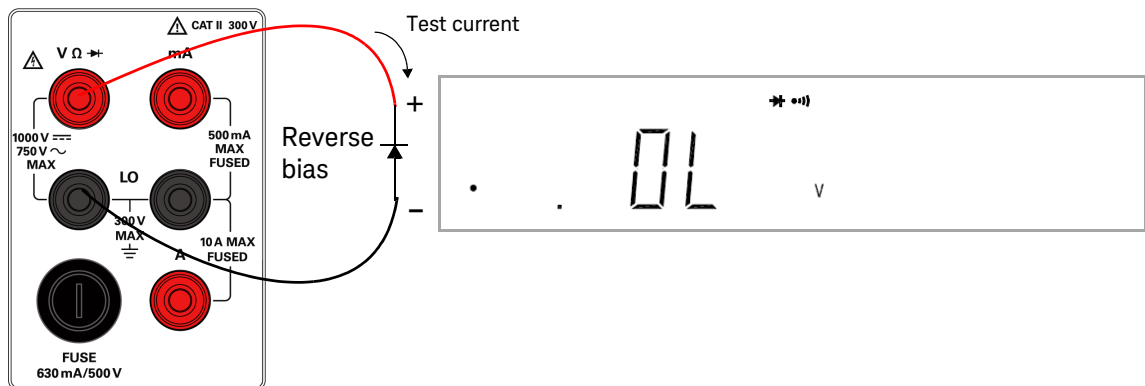

Figure 1-17 Reverse-biased diode/continuity terminal connection and display
- 5 Reverse the probes and measure the voltage across the diode again as shown in Figure 1-17. Assess the diode according to the following guidelines: